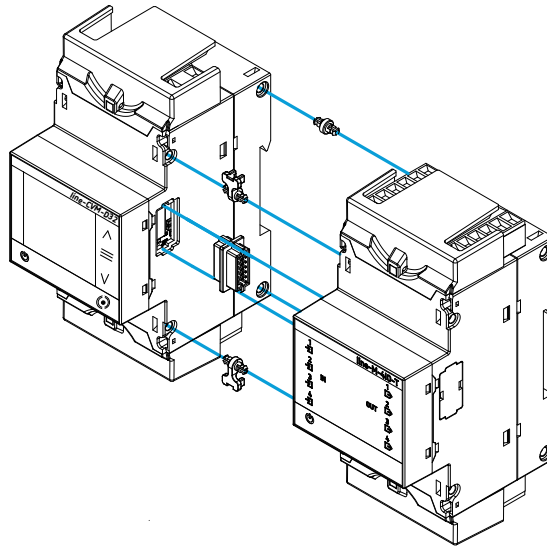

Figure 4: Installation step 2.
2.- Insert the expansion connector and fastening clips into one of the devices (**Figure 4**).